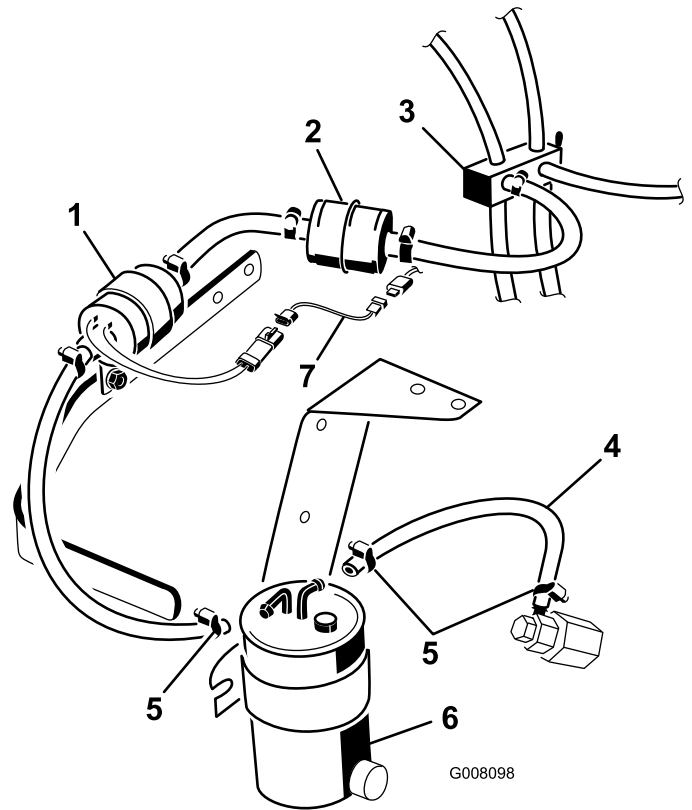

Figure 10
1. Install the hose installed on the fuel pump to the water separator with a hose clamp. See Figure 10 for the correct connection to use on the top of the water separator.
2. Install the hose to the water separator and to the engine fuel intake with 2 hose clamps (Figure 10).
4. Install the fuel pump harness to the main wire harness (Figure 10).